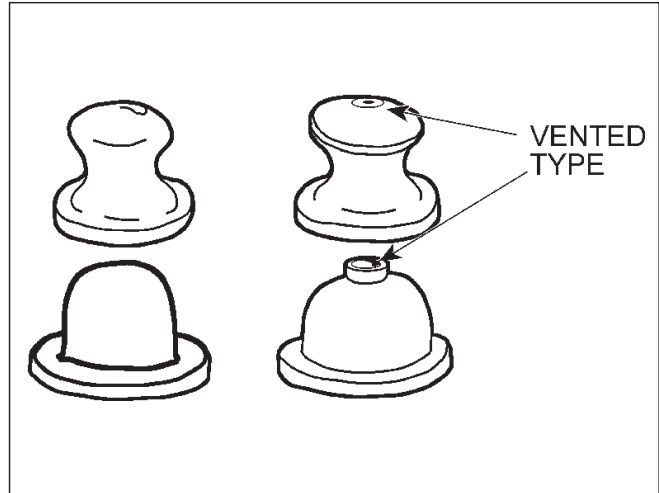

Fig. 26
d) ALTERNATIVE STYLE PRIMER START FLOAT CARBURETTORS (Fig. 26)